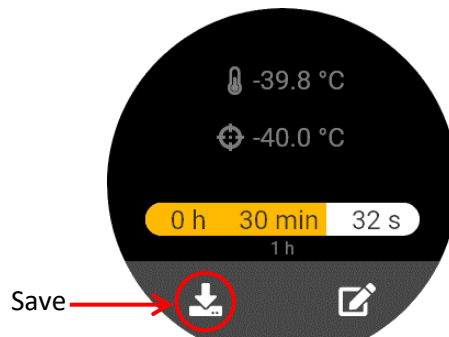

Figure 61: Base Unit Save Icon
12. On the Base Unit, press the **Save** button. See Figure 61.